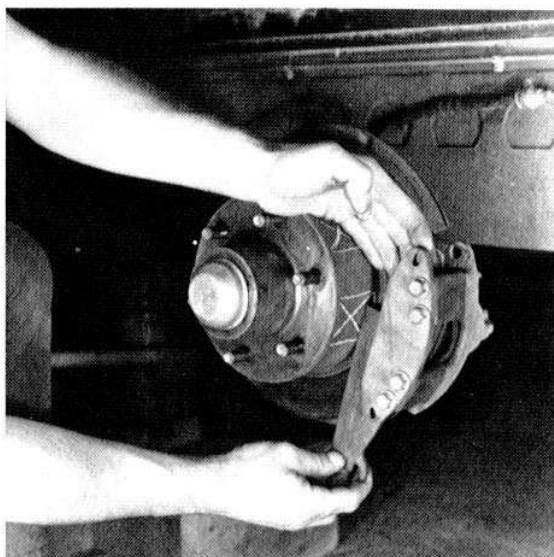

Fig. 24
3. Orient flat on hub of rotor until it is directly below bottom edge of brake lining (Fig. 24 & 25).
6. Remove linings by sliding out bottom end of caliper (Fig. 24 & 25).